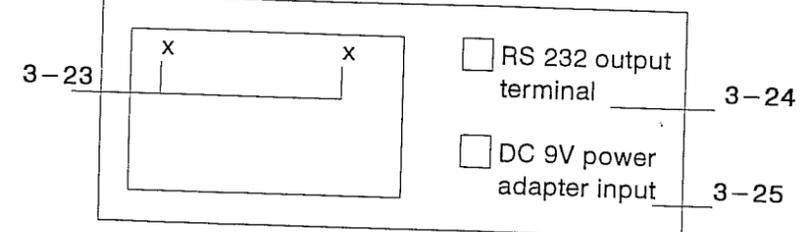

Fig. 1
- 1) Push the " Power Switch " (3-13, Fig. 1), all the display segments will bright then show 0 or some random values. Now the instrument is ready for measurement.
- 2) Push the " Range Switch " (3-15, 3-16, 3-17, Fig. 1) to the " 10 MHz ", " 500 MHz " or " 2.7 GHz " position according to the measurement required.
- 3) a. Input the measured signal to Channel A/BNC socket (3-2, Fig. 1) via. BNC cable (optional, PB-21 or BB-22) if the measured frequency is within 10 MHz.
b. Input the measured signal to Channel B/N type socket (3-3, Fig. 1) via N type cable (optional, NN-23) if the measured frequency is within 10 MHz to 500 MHz.
c. Input the measured signal to Channel C/N type socket (3-4, Fig. 1) via N type cable (optional, NN-23) if the measured frequency is within 100 MHz to 2700 MHz.
- 4) According the different input range, select the Sensitivity Switch (3-19, 3-20, 3-21, Fig. 1) to the " HIGH " (high sensitivity) or " NORMAL " (normal sensitivity) position.
- 5) Slide the Gate Time Switch (3-18, Fig. 1) to the " FAST " or " SLOW " position to determine the convenient sampling time & display resolution.
- 6) The display unit is Hz for 10 MHz range. The display unit is MHz for 500 & 2.7 GHz range. The Gate Indicator (3-22, Fig. 1) will be flashed one for each sampling time passed.
* If select to " SLOW " position, then push The RESO. button (3-10, Fig. 1) at once 3 times will result 3 kinds Sampling Time & Resolution combination. For more details please see the following table :
During the measurement, it will hold the display values, if push the " HOLD Button " (3-8, Fig. 1) at once.
- 1) During the measurement, the circuit will memorize the last measured values if push the " REL. Button " (3-9, Fig. 1) at once, then LCD will show "0" & a "REL" marker appear on the right down corner.
1) Input the measured signal to Channel A/BNC socket (3-2, Fig. 1) via. BNC cable (optional, PB-21 or BB-22)
2) Select the " Period Switch " (3-14, Fig. 1) Select the " 10 MHz range Sensitivity Switch " Switch (3-19, Fig. 1) to the " HIGH " (high sensitivity) or " NORMAL " (normal sensitivity) position.
- 3) Slide the Gate Time Switch (3-18, Fig. 1) to the " FAST " or " SLOW " position to determine the convenient sampling time & display resolution.